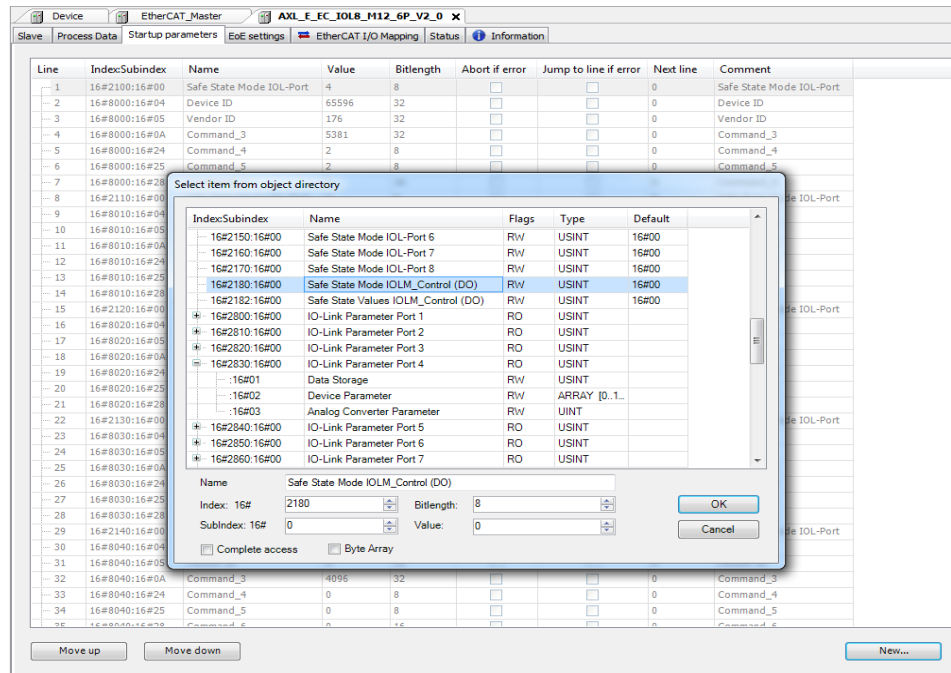

Figure 3-9 Setting substitute value behavior via Startup parameters
- Scroll through the window that opens until you find the entries, as shown in Figure 3-9.